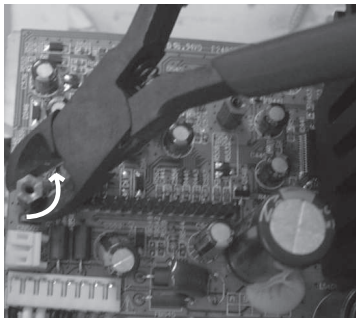

Figure 11
- 3) With a pincers to remove the bolt as shown in figure 11